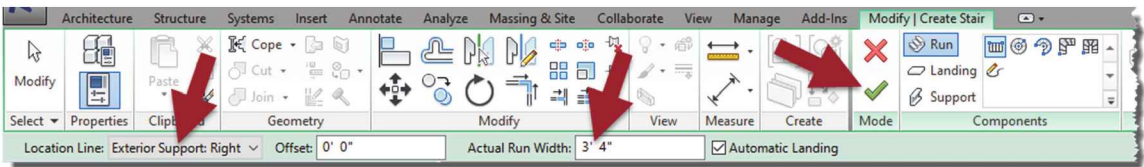

FIGURE 7-7.2 Finish Stair Sketch Button
5. On the *Options Bar*, set the *Location Line* to **Run: Right** and *Actual Run Width* to **3'-4"**, (Figure 7-7.2).
9. Click **Finish Edit Mode**, i.e. the green check mark (Figure 7-7.2).